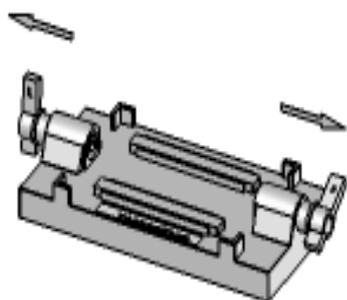
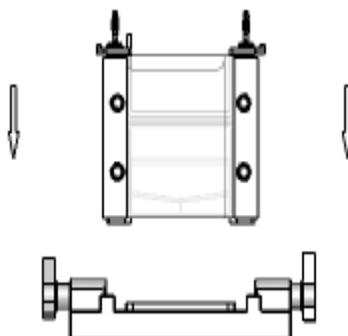
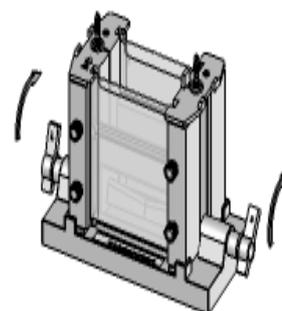

Fig. 4 Pull the cams to both sides
Fig. 5 Place the module in the gel cast stand
Fig. 6 Insert and tighten the cams
- Pull the cams of the gel cast stand to both sides. (fig 4) Place the running module in it(fig 5). Insert and tighten cams to make the bottoms of the plates press at the gaskets of the gel cast stand (fig 6). Then you can pour the gel.